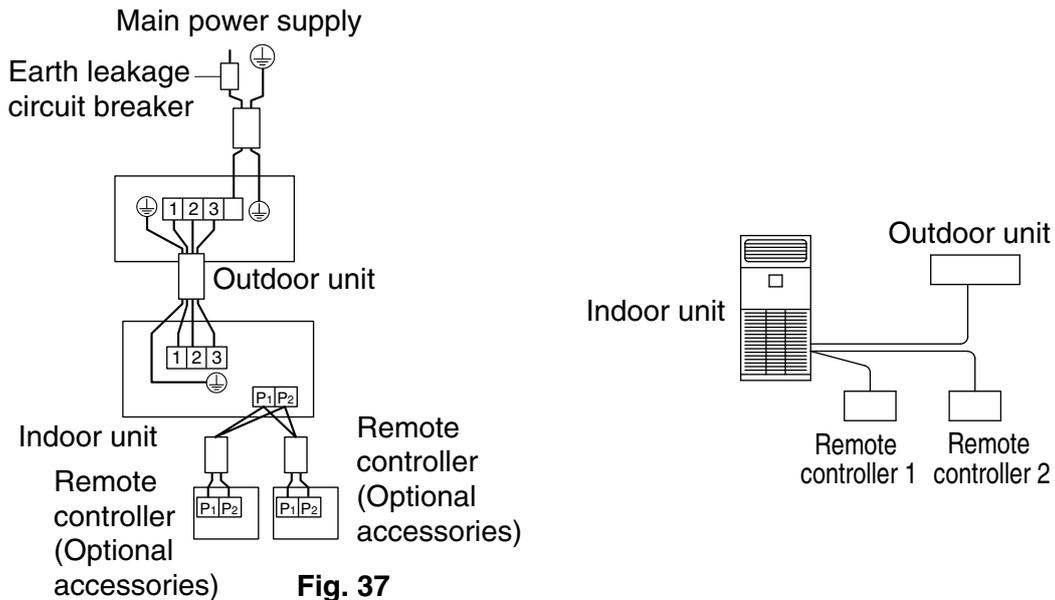

Fig. 37
- **2 remote controllers control:** 2 remote controllers control 1 indoor unit. (Refer to Fig. 37)
- Add wiring between the remote controller 2 (slave) and the terminal (P1, P2) of the terminal block (X1M) for the remote controller in the control box. (There is no polarity.) (Refer to Fig. 37 and Table 4)